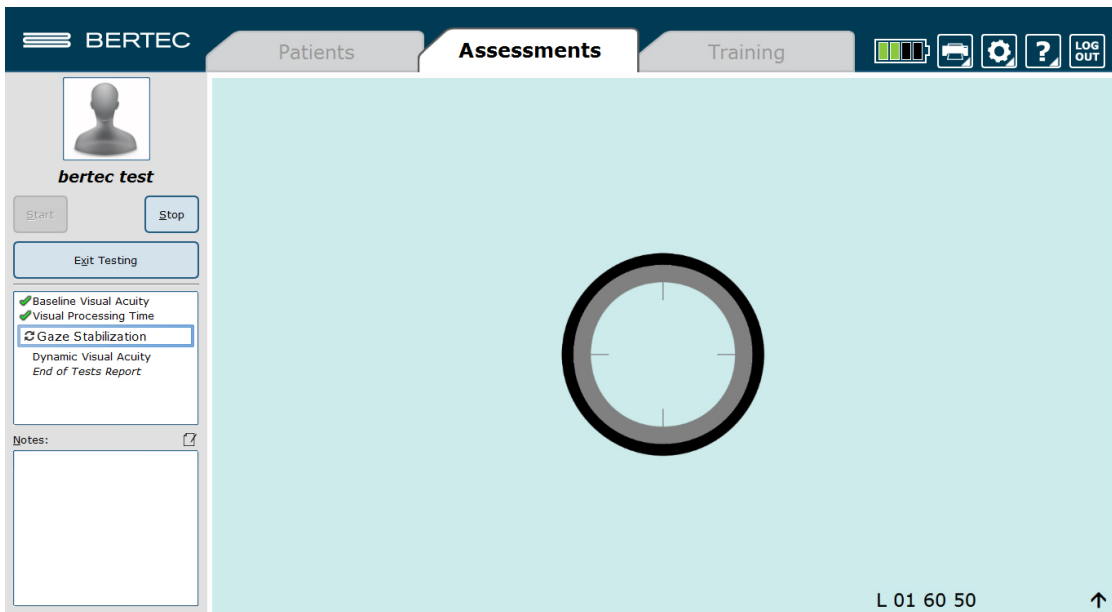

Figure 24. Head Turn Amplitude Increase
Clinicians will also notice numbers appear in the lower right corner of the screen while a trial is being performed. For the GST, the first number is the current target velocity and the second number is the head velocity of the most recent head rotation (this number will change after each head rotation). A picture of the patient screen during the GST protocol is shown in Figure 24, as well as in the GST portion of this manual.
The arrow that occasionally appears on the bottom right corner of the screen (Figure 24) is an indication that the patient's head turning amplitude should increase.
- d. Click on the "System" tab above and scroll all the way down. Check Device Information to verify that the Head Tracker is listed (Figure 24).